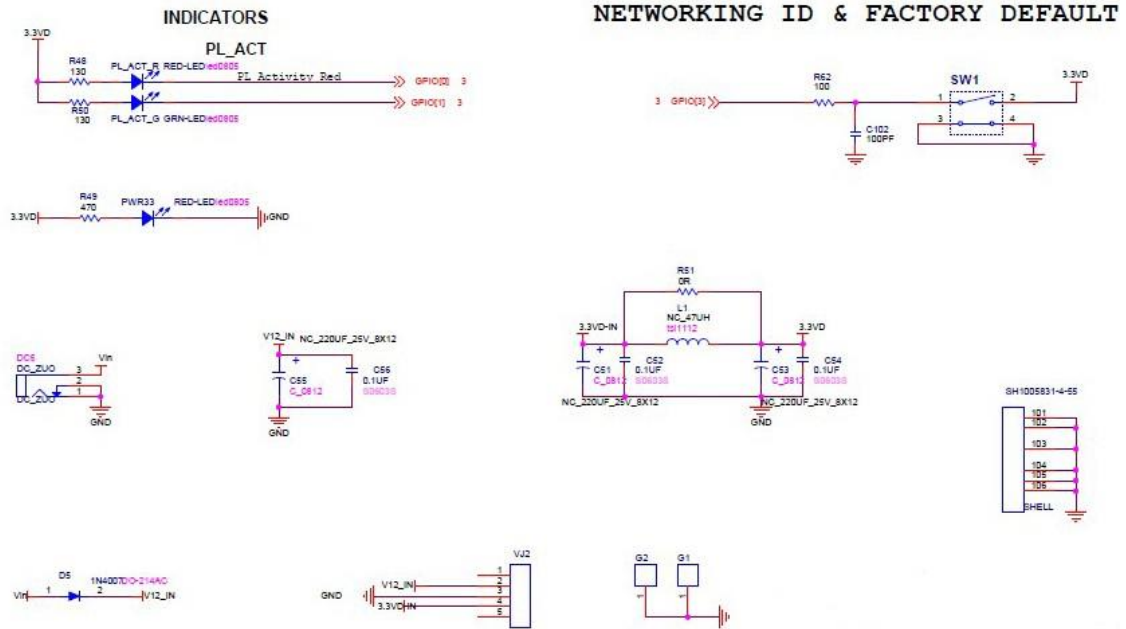

Figure 9 Signal LED、Reset circuit and Filter circuit etc.
4) The Figure 9 introduce the detail of LED, Reset circuit and filter circuit